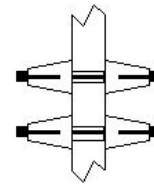

Figure 4
- Suitable holes can be drilled into a wall or window frame for threaded rod or ceramic chassis feedthrough insulators (4,14) - see Figure 4. The feedthrough method is probably best since an air gap around the threaded rod gives insulation - ordinary building materials are not very good RF insulators.